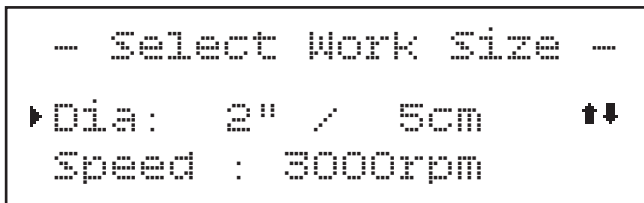

Figure 70. Select Work Size submenu.
3. Scroll to desired cut type, then press spindle speed dial to enter Select Work Size submenu (see **Figure 70**).